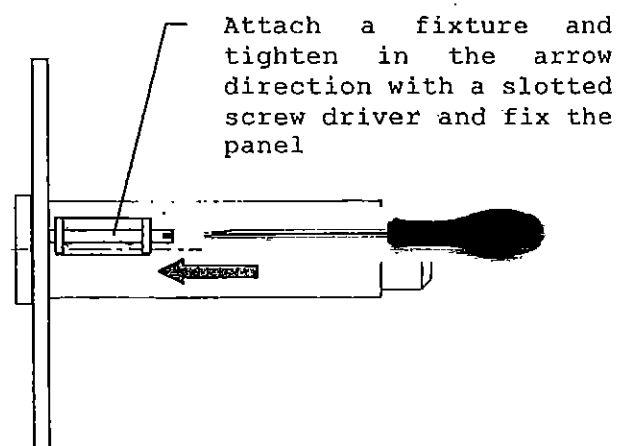

Fig. 12 Installation (fixing)
- ③ After inserting, hook the attached fixture to the fixture installing hook and screw in metal fitting screw with a slotted screwdriver to securely fasten to the panel side. (Fig. 12)